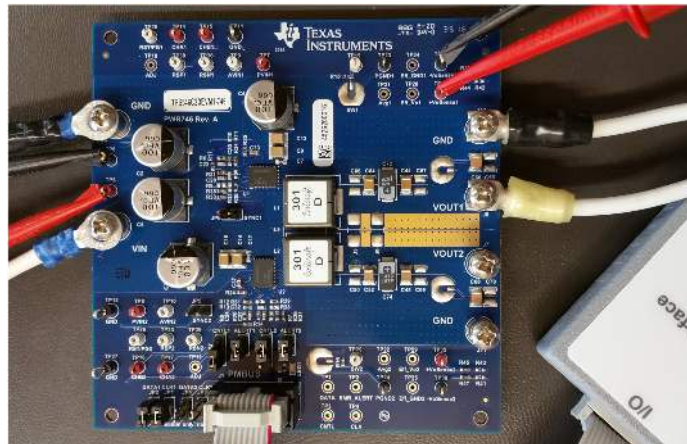
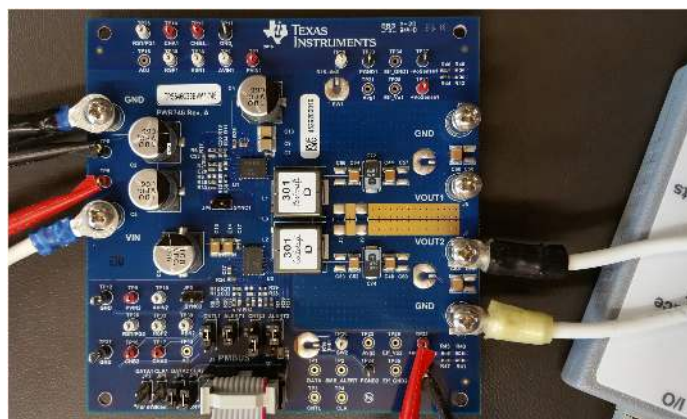

Figure 2. TPS546C23EVM1-746 EVM Recommended Test Set Up For Output #1
Figure 3. TPS546C23EVM1-746 EVM Recommended Test Set Up For Output #2
(2) The efficiency is measured based on Figure 2 and Figure 3 test setups, which includes power loss caused by on board copper traces.
The input voltage source  $V_{IN}$  should be a 0-V to 20-V variable DC source capable of supplying 20 ADC. Connect input VIN and GND to J2 and J3 as shown in Figure 2 and Figure 3.
It is recommended to use two separate multi-meters as shown in Figure 2 and Figure 3. One meter to measure  $V_{IN}$ , the other to measure  $V_{OUT1}$  or  $V_{OUT2}$ . If both output is enabled at same time, three separate multi-meters are recommended.
A variable electronic load is recommended for the test setup as shown in Figure 2 or Figure 3. The load should be capable of 40 A.
Figure 2 and Figure 3 shows the recommended test setup.